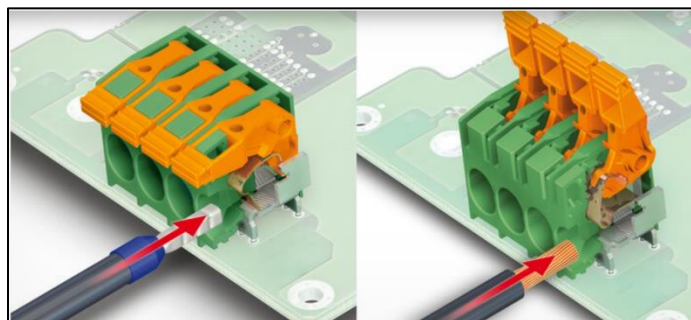

Figure 2-5
**Installation Note:** The Interconnect terminal lever actuated connections accommodate wire installation with ferrules but are not required. Wire insulation can be stripped and installed on bare wire. Reference Figure 2-5